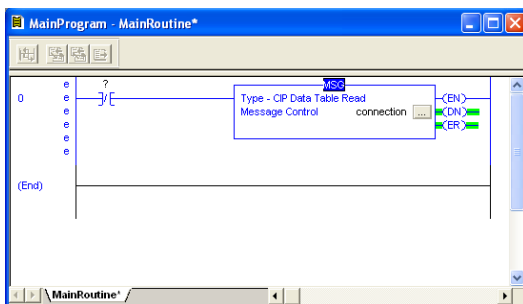

Figure 50: MainRoutine
- e) Click "OK" to close the MSG Configuration dialog. At this stage, MainRoutine should look like Figure 50.